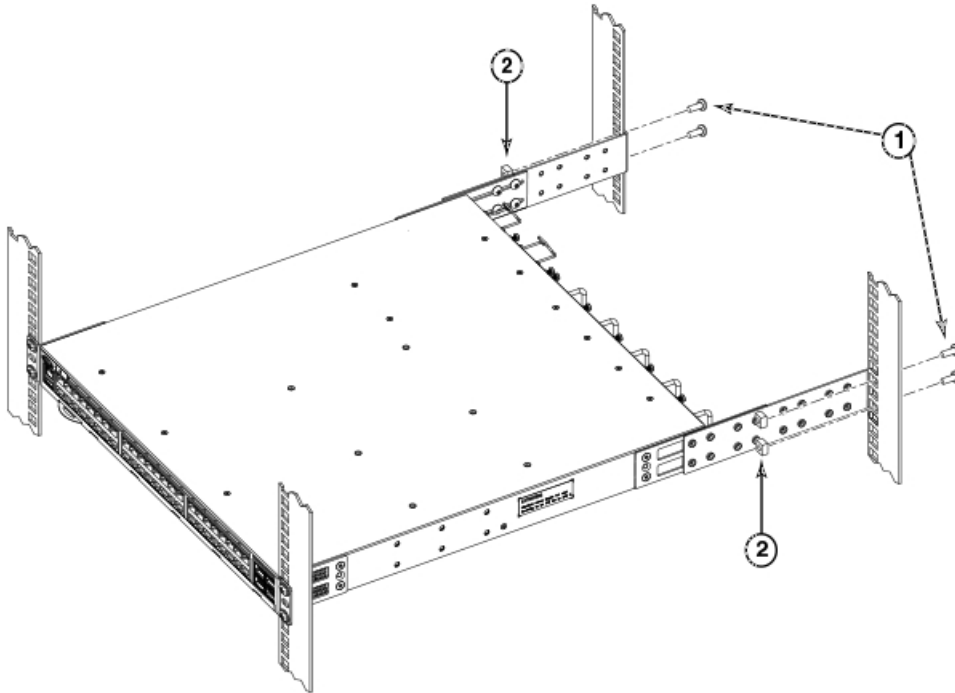

Figure 8. Attaching the rear brackets to the rack posts
1. Attach the right rear bracket to the right rear rack post using two 10-32 x 5/8-in. panhead screws and two retainer nuts, as shown in Figure 8 on page 22. Use the upper and lower holes in the bracket.